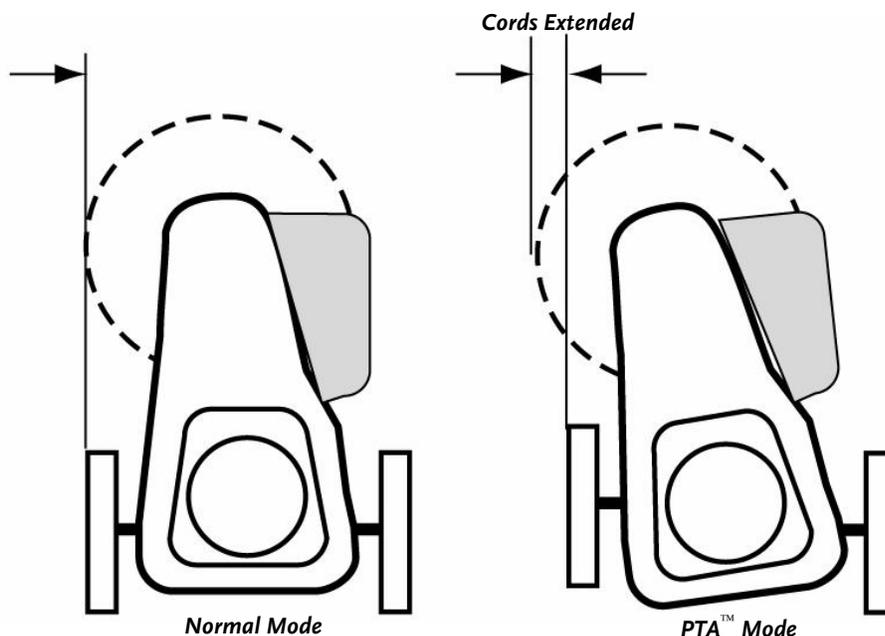

Figure 6
**NOTE:** In PTA™ mode, the Trimmer's wheels stay straight while the Trimmer Head tilts as shown in **Figure 6**. The Cutting Cords extend beyond the wheelbase in the PTA™ mode (**Figure 6**), allowing you to easily cut under obstacles. The Trimmer Head and the Cutting Cords also tilt slightly in PTA™ mode so you can edge and trim along gardens, paths, and driveways (**Figure 6**). When using PTA™ along garden edges, fences, and buildings, we recommend making your first pass with the DR TRIMMER/MOWER in the Normal mowing position, staying 4 to 8 inches from the obstacle; and then return for another pass with the machine in PTA™ mode.